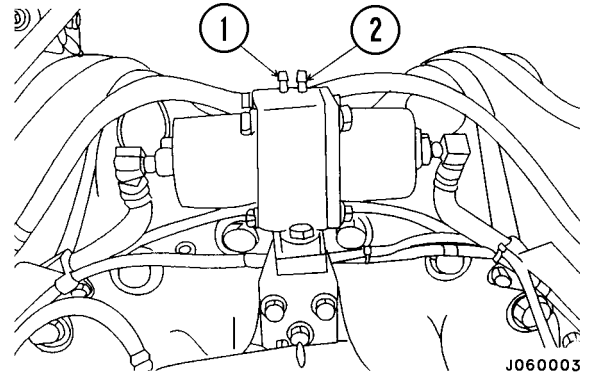

FIGURE 40-13. SLACK ADJUSTER
1. Bleed the air at the slack adjuster end first. Depress the brake pedal, then loosen air bleed plugs (1 or 2, Figure 40-13) 3/4 turns. Tighten the plug again, then release the pedal.